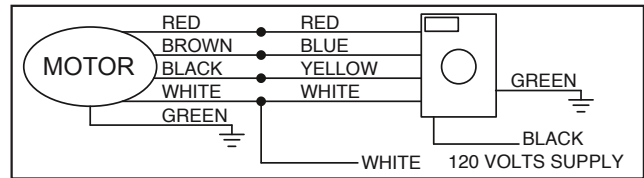

Figure 5
7. Attach the three blades, curved side down to the motor with the insulation pad mounted between the blade and the motor (See Figure 5). Make sure blade holder is flat against motor platform when tightening blade nuts for secure fit.